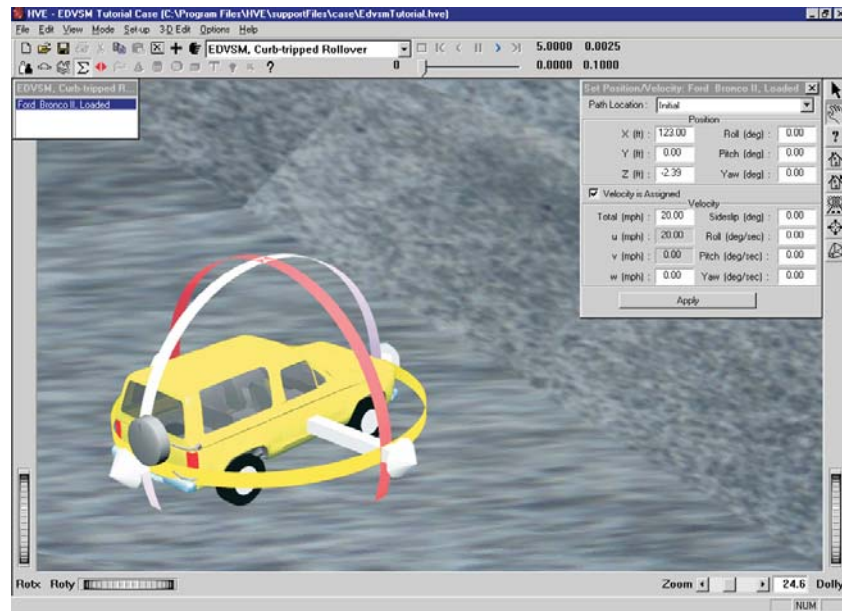

Figure 5-8 Vehicle positioning using the HVE Event Editor. The manipulators can be used to *drag and drop* the vehicle into position.
- Click on the vehicle's X-Y manipulator (see Figure 5-8), wait for it to turn bright yellow (indicating it has been selected), and drag it to its initial position, X=123 ft, Y=0 ft. Its initial heading angle is 0 degrees and need not be modified.
☞ **NOTE:** To select the X-Y manipulator, the viewer must be in Pick mode, as indicated by the highlighted arrow in the upper right corner of the viewer (see Figure 5-8).